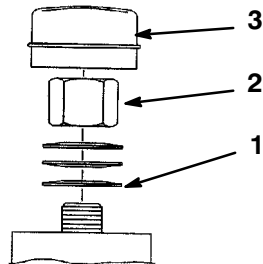

Figure 55
2. Remove dust cap from castor and tighten lock nut (Fig. 55).
3. Tighten until spring washers are flat and then back off a 1/4 turn to properly set the preload on the bearings (Fig. 55).
Important Make sure spring washers are installed correctly as shown in figure 55.